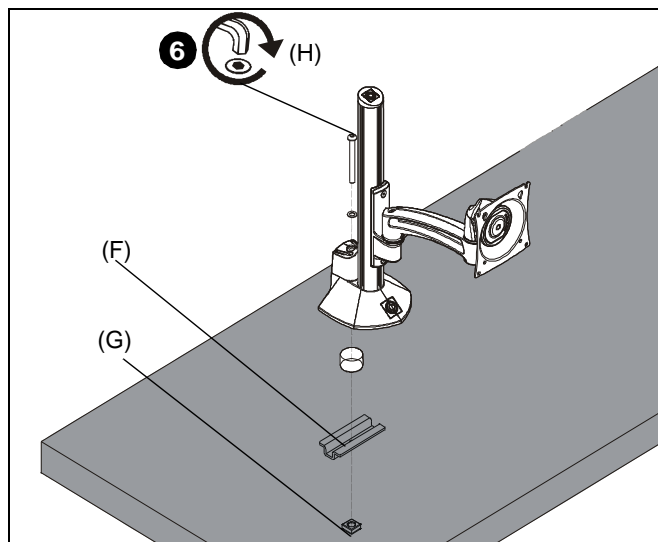

Figure 6
5. Place mount on desk over grommet hole. (See Figure 6)
6. Use 5/16-18 x 6" button head cap screw (H), clamp bracket (F) and 5/16-18" square nut (G) to secure mount to desk. (See Figure 6)